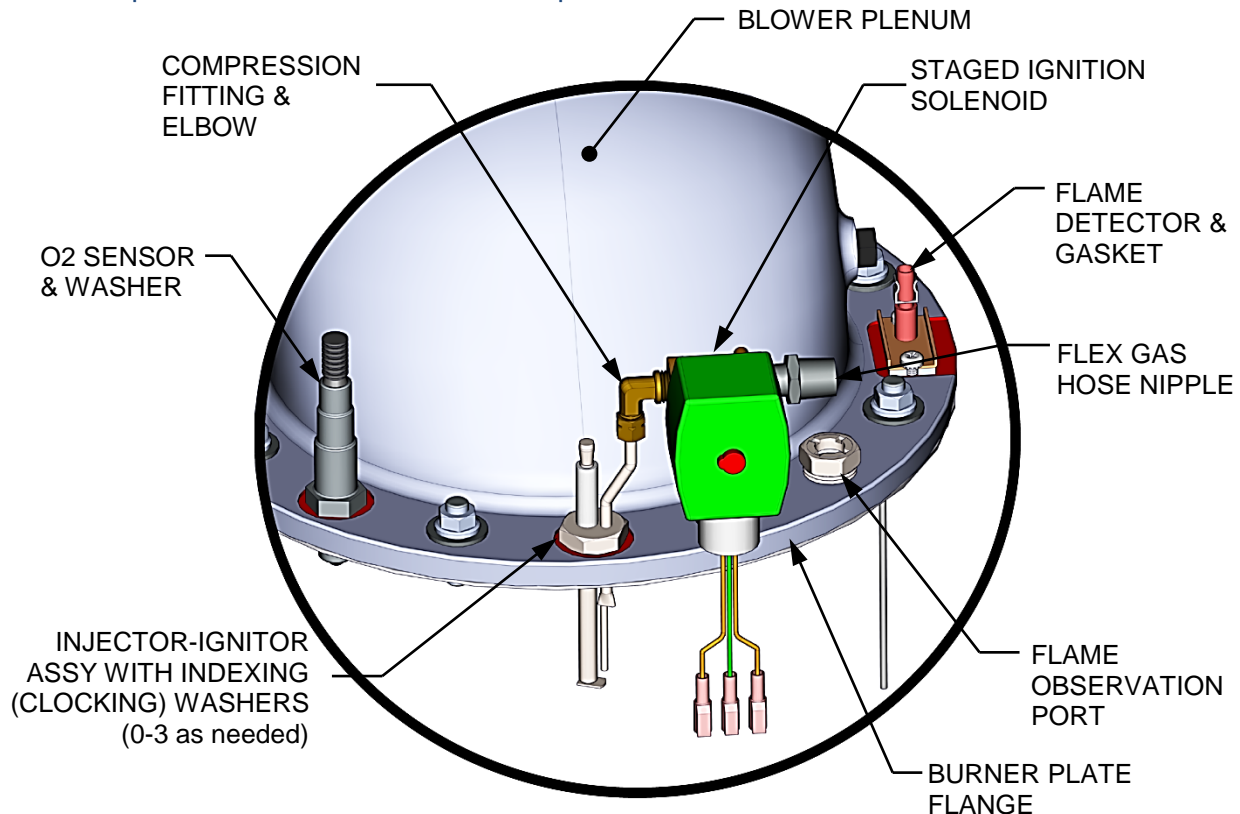

Figure 7-2. Igniter-Injector & Flame Detector Mounting Details
4. Refer to the partial exploded view in Figure 7-2. Using a 7/16" open-end wrench, disconnect the compression nut securing the gas injector tube of the igniter-injector to the elbow of the staged ignition assembly. Disconnect the staged ignition assembly from the igniter-injector.
4. Remove the two (2) screws securing the flame detector to the plate (Figure 7-2). The flame detector is secured to the burner plate with one #10-32 screw and one #8-32 screw.
2. Remove the top shroud from the unit by grasping the top handle and lifting straight up. This will disengage the shroud from the four (4) pins in the side panels.
3. Disconnect the lead wire from the flame detector installed on the burner plate. See Figure 7-2.
4. Remove the two (2) screws securing the flame detector to the plate. The flame detector is secured to the burner plate with one (1) #10-32 screw and one (1) #8-32 screw.
7. Using a 7/16" open-end wrench, disconnect the compression nut securing the gas injector tube of the igniter-injector to the elbow of the staged ignition assembly (see Figure 7-2). Disconnect the staged ignition assembly from the igniter-injector.